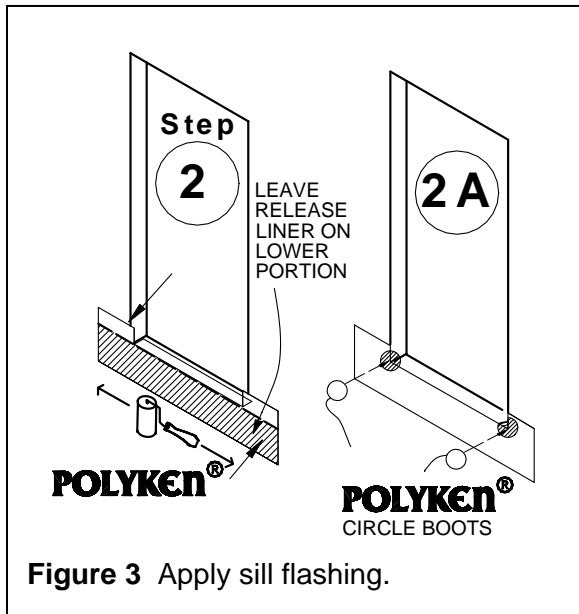

Figure 3 Apply sill flashing.
Score backside of Polyken® or Nashua® sill flashing cutting lightly through release liner a few inches from top edge to act as a substrate adhering edge. Keep bottom portion of release liner on Polyken® or Nashua® sill flashing until removed later. Apply Polyken® or Nashua® sill flashing tape across rough opening sill and into threshold opening(see Figure 3).
Step 2a. Apply Polyken® or Nashua® circle boots at corners of sill-jamb junctures (see Figure 3).